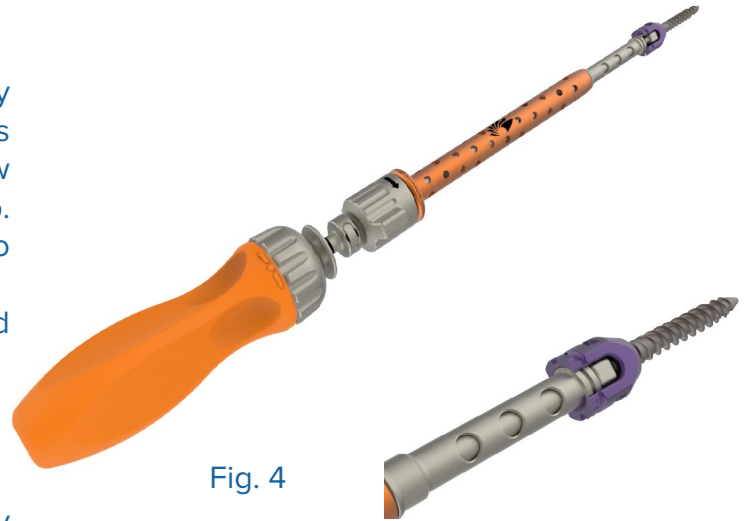

Fig. 4
- Tighten the screw driver onto the screw by rotating the winged housing clockwise. This will advance the distal feature of the screw driver into the thread pattern of the tulip. Rotate the winged housing until it will no longer advance and is tight (Fig. 4).